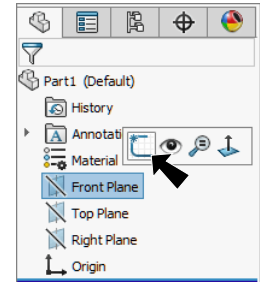

Fig. 1
Step 1. Click **Front Plane** in the Feature Manager and click **Sketch** on the context toolbar, **Fig. 1**.